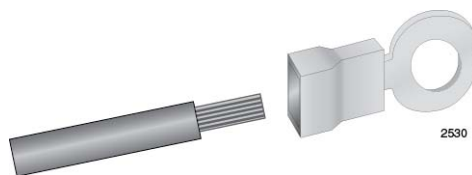

Figure 122. Attaching the Stranded Grounding Wire to the Grounding Terminal
2. Insert the grounding wire into the grounding terminal provided with the power supply and use a crimping tool to secure it to the grounding terminal. See Figure 122,